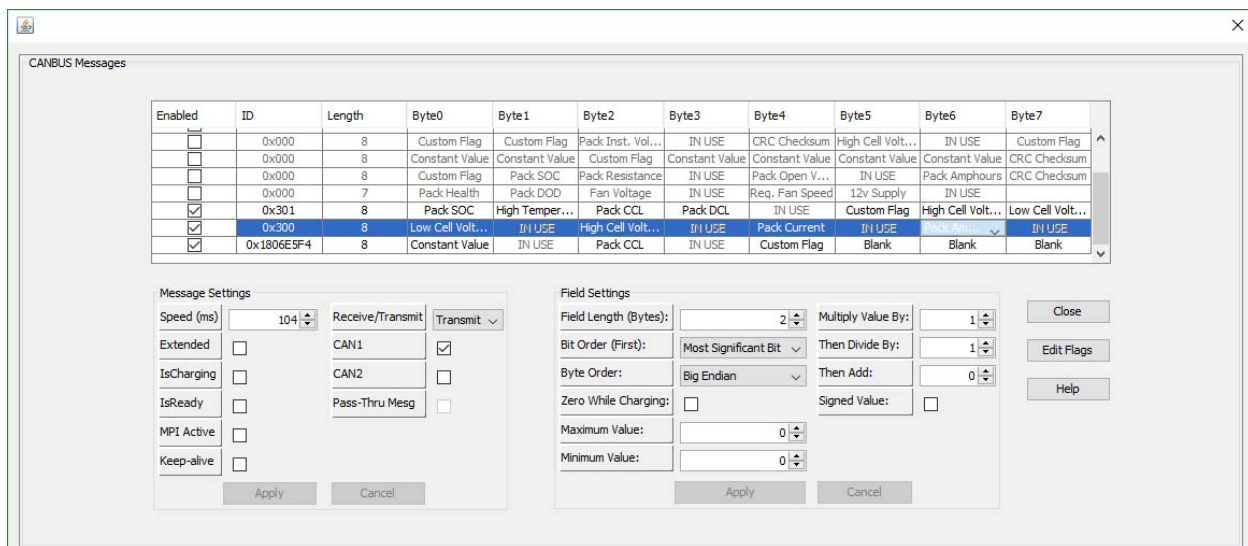

Fig. 17
13. Make sure that the Message and Field Settings for **Pack AmpHours** are the same as in (Fig 17).